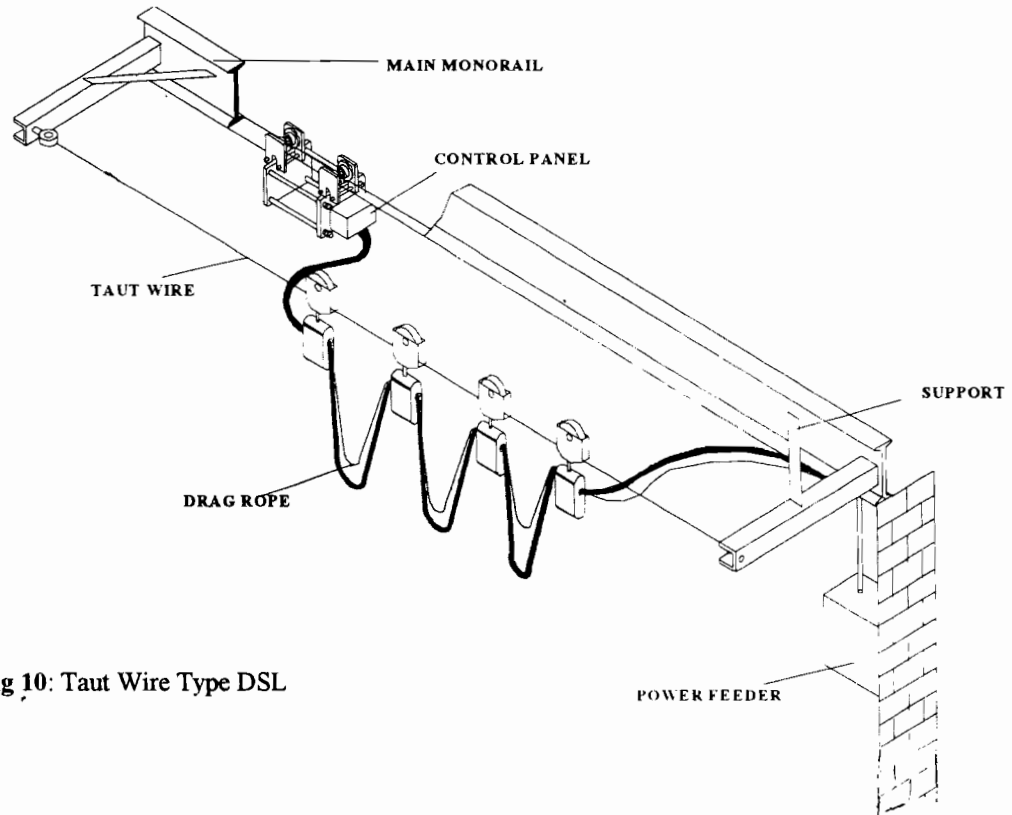

Fig 10: Taut Wire Type DSL
2. In case of Control Panel integral to electric hoist DSL system shall be as shown in Fig. 10 (Taut Wire Type)